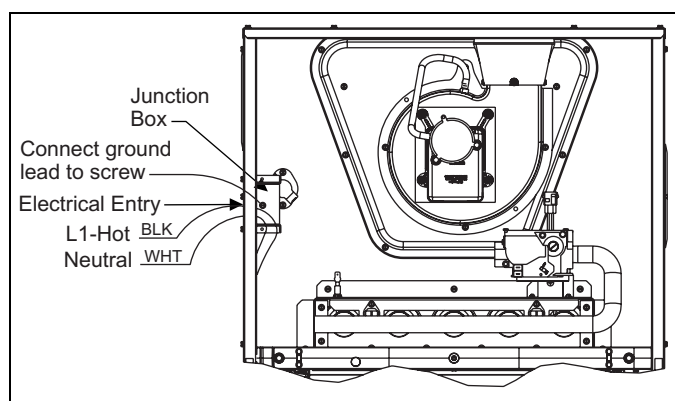

FIGURE 16: Electrical Wiring
2. Remove the screws retaining the wiring box cover. Route the power wiring through the opening in the unit into the junction box with a conduit connector or other proper connection. In the junction box there will be 3 wires, a Black Wire, a White Wire. Connect the power supply as shown on the unit-wiring label on the inside of the blower compartment door or the wiring schematic in this section. The black furnace lead must be connected to the L1 (hot) wire from the power supply. The white furnace screw must be connected to neutral. Connect the power supply ground to the green screw (equipment ground). An alternate wiring method is to use a field provided 2" (5.1 cm) x 4" (10.2 cm) box and cover on the outside of the furnace. Route the furnace leads into the box using a protective bushing where the wires pass through the furnace panel. After making the wiring connections replace the wiring box cover and screws. Refer to Figure 16.
3. The furnace's control system requires correct polarity of the power supply and a proper ground connection. Refer to Figure 16.